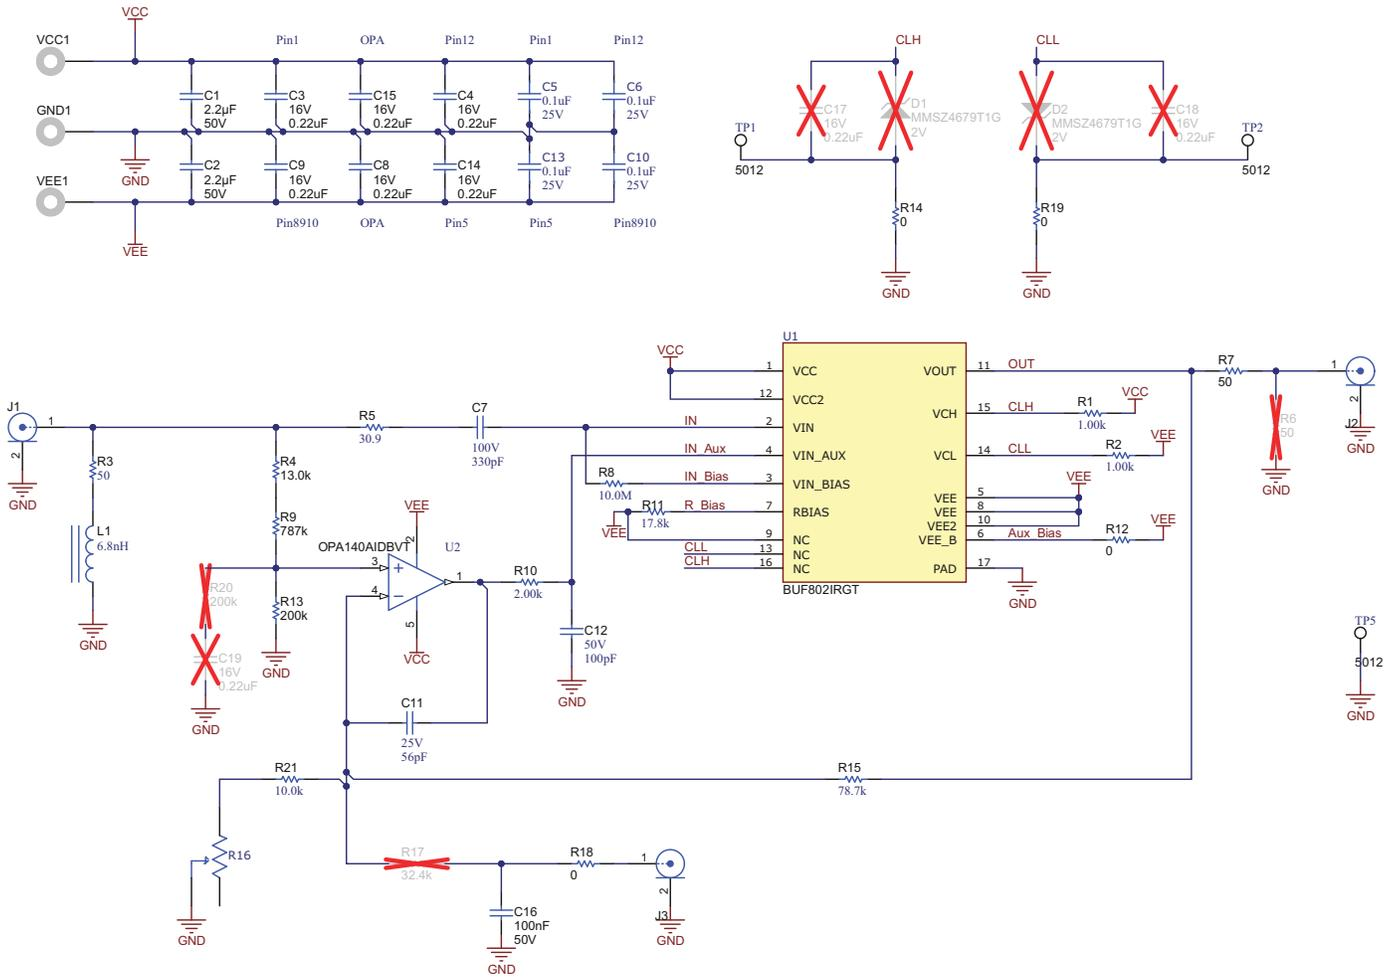

Figure 8-10. Layout Example: Schematic for Layout Reference
- **Peaking in the S21 transfer function:** keeping the trace length minimum is of prime importance to prevent peaking in the S21 transfer function of the BUF802. The trace inductance can form a resonant circuit with the input capacitance of the BUF802, causing peaking in the S21 response. Add a small resistor (R5 in Figure 8-10) in series with the dc blocking capacitor to dampen the LC resonance created by the trace inductance and the input capacitance of the BUF802. Select series capacitors (C7 in Figure 8-10) with low equivalent series inductance (ESL) to minimize total inductance.
- **Power-supply bypass capacitors:** mount the power-supply bypass capacitors as close to the supply pins as possible and on the same side of the PCB as the BUF802. As shown in Figure 8-10, select low-inductance LICC capacitors (C5, C6, C13, and C10) to minimize high-frequency impedance between the BUF802 and the bypass capacitors. Use multiple vias between the bypass capacitor and GND to reduce series inductance. As shown in Figure 8-10, also use multiple vias to GND on the 50- Ω input termination resistor (R3). Connect the bypass and termination vias to a solid GND plane.